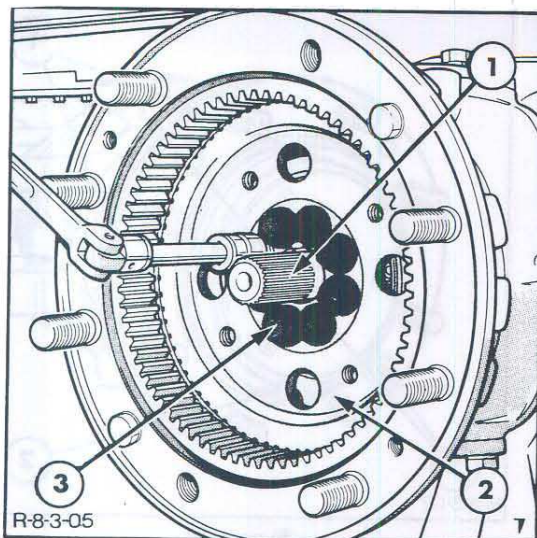

Figure 16
8. Grasp the spacer then slide and lift the metering element, spacer and drive link as an assembly, from the valve housing, Figure 16.
5. Bolt the ring gear and carrier assembly to the swivel casing, ensuring that the single large bushing is correctly positioned, Figure 16. Tighten the bolts, evenly in three stages, see 'Specifications' – Chapter 5.